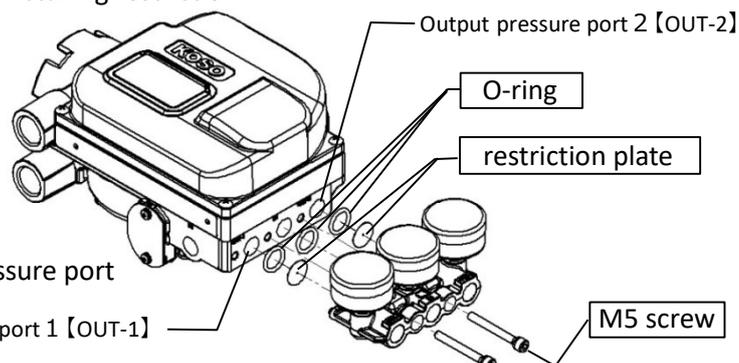

Figure 2.7.2 Output pressure port
3. First insert the restriction plate into the output air pressure port (see Figure 2.7.2), then set the O-ring.